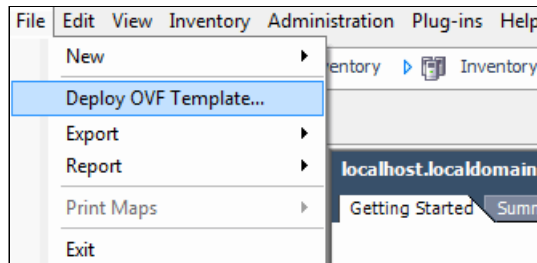

Figure 3-52 Deploy a new VM
6. From the vSphere client user interface, deploy an OVF template, as shown in Figure 3-52.